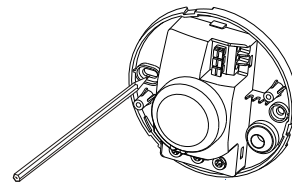

fig.3
2. Hold base against the Ceiling and mark drill holes(see fig.3),paying attention to any existing wiring in the Ceiling;